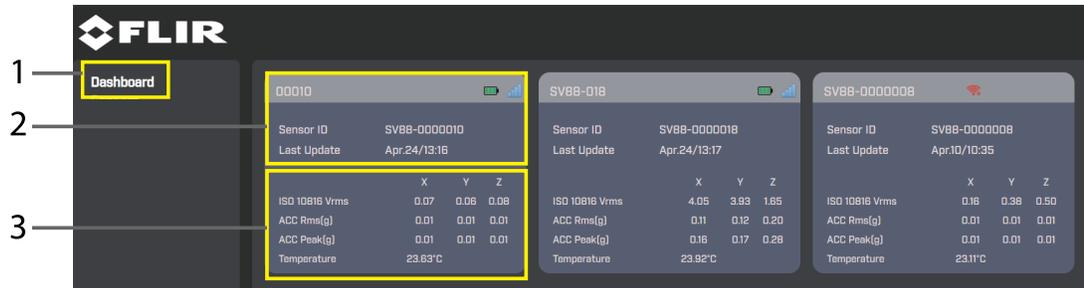

Figure 11.1 The main Dashboard for the web-based user interface, built-in to the GW66.
- When you successfully connect with the GW66 Wi-Fi network and access the user interface, the Dashboard screen, shown below, in Figure 11.1.
The Dashboard is the first page that appears in the interface. Here you can select other pages and view connected sensor data. Refer to Figure 11.1, below for details.